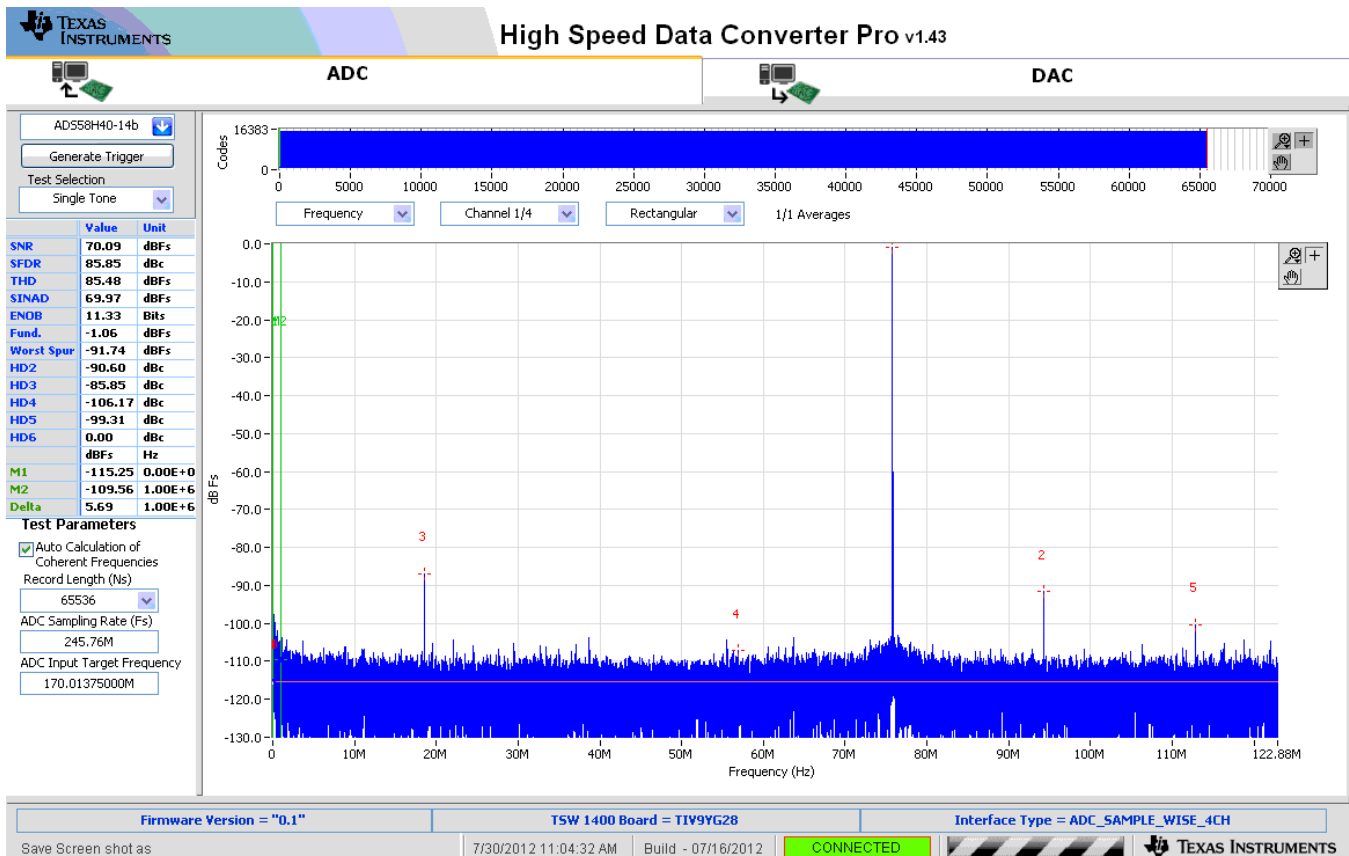

Figure 14. ADS58H4x 14-Bit High-Resolution Mode, Single Tone Test Result:
5. In the EVM GUI, enable High Resolution Burst Mode of the channels under evaluation. Set the desired high- and low-resolution samples. The example shown in Figure 14 has both high samples and low samples set to maximum. This ensures that the entire FFT is analyzed with 14-bit capture for accurate SNR and SFDR calculations.
8. Observe an FFT result similar to that of Figure 14.